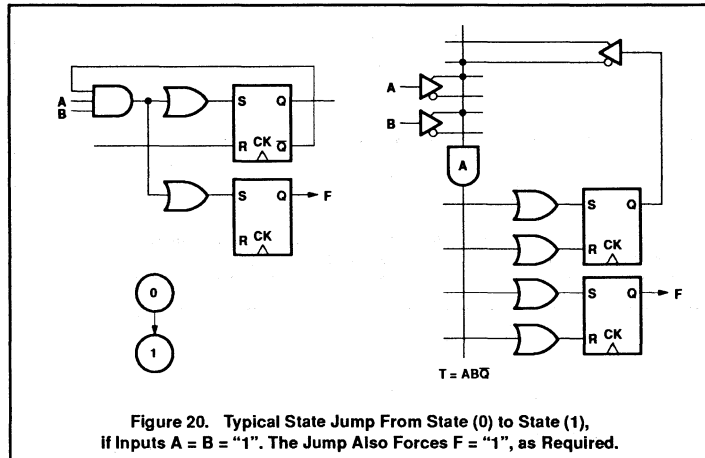

Figure 20. Typical State Jump From State (0) to State (1), if Inputs A = B = "1". The Jump Also Forces F = "1", as Required.
State jumps can occur only via "transition terms" T_n . These are logical AND functions of the clock (t), the Present state (P), and a valid input (I). Since the clock is actually applied to the State Register, $T_n = I \cdot P$. When T_n is "true", a control signal is generated and used at clock time (t) to force the contents of the State Register from (P) to (N), and to change the contents of the Output Register (if necessary). The simple state jump in Figure 20, involving 2 inputs, 1 state bit, and 1 output bit, illustrates the equivalence of discrete and programmable logic implementations.